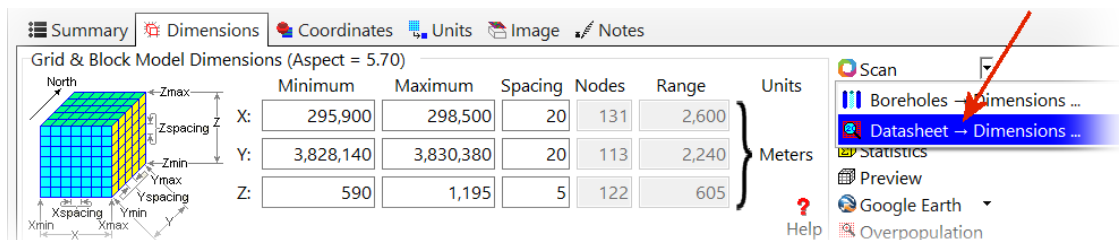

Figure 4
- Set the *Project Dimensions* to enclose the control points by clicking the *Dimensions* tab and selecting the *Datasheet -> Dimensions* option (Figure 4).